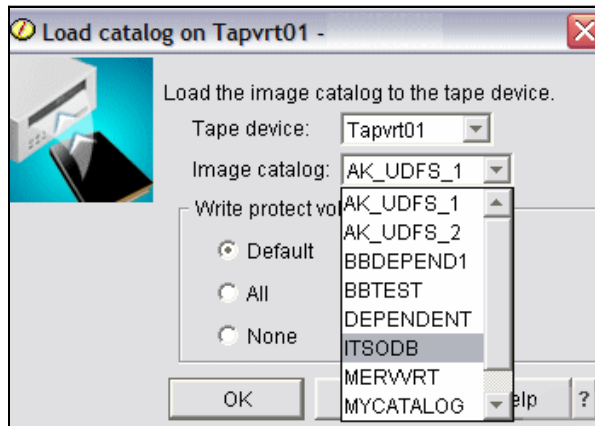

Figure 8-31 Select image catalog to load
3. Select the image catalog, as shown in Figure 8-31 on page 448. Click **OK**.